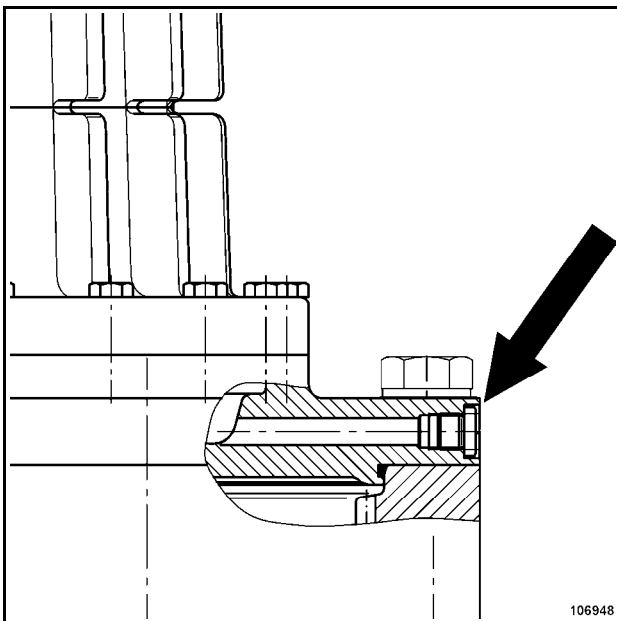

Fig. 3-122:
- Unscrew plug at the upper edge of the gearbox housing (arrow, Fig. 3-122:).
- Screw plug (arrow, Fig. 3-122:) back in place.